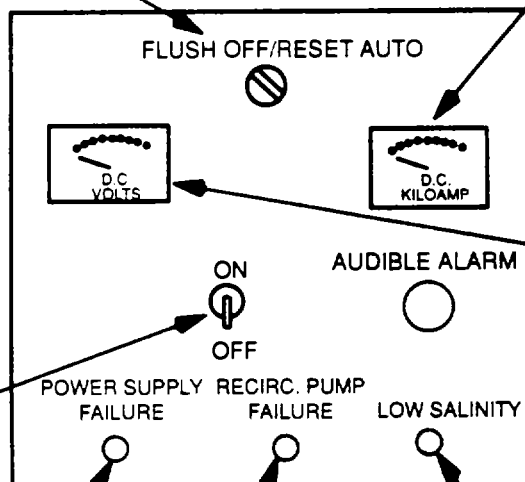

Figure 3-5. Chlorination Unit Control Cabinet Controls and Indicators
- d. Turn alarm ON/OFF switch on control cabinet (Figure 3-5) ON.
- j. Turn function switch on control cabinet (Figure 3-5) to AUTO.
- (3) Chlorination unit control cabinet (Figure 3-5)
- b. Turn function switch on control cabinet (Figure 3-5) to OFF/RESET. This opens level sensors in holding tank and solenoid valves which stops flow of water to brine tank.
- c. Turn alarm ON/OFF switch on control cabinet (Figure 3-5) to OFF.